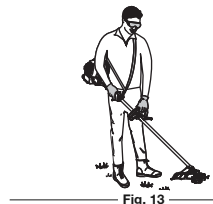

Fig. 13
3. While holding the unit in the operating position (Fig. 13), move the D-handle to the location that provides you the best grip.
Before operating the unit, stand in the operating position (Fig. 13). Check for the following: